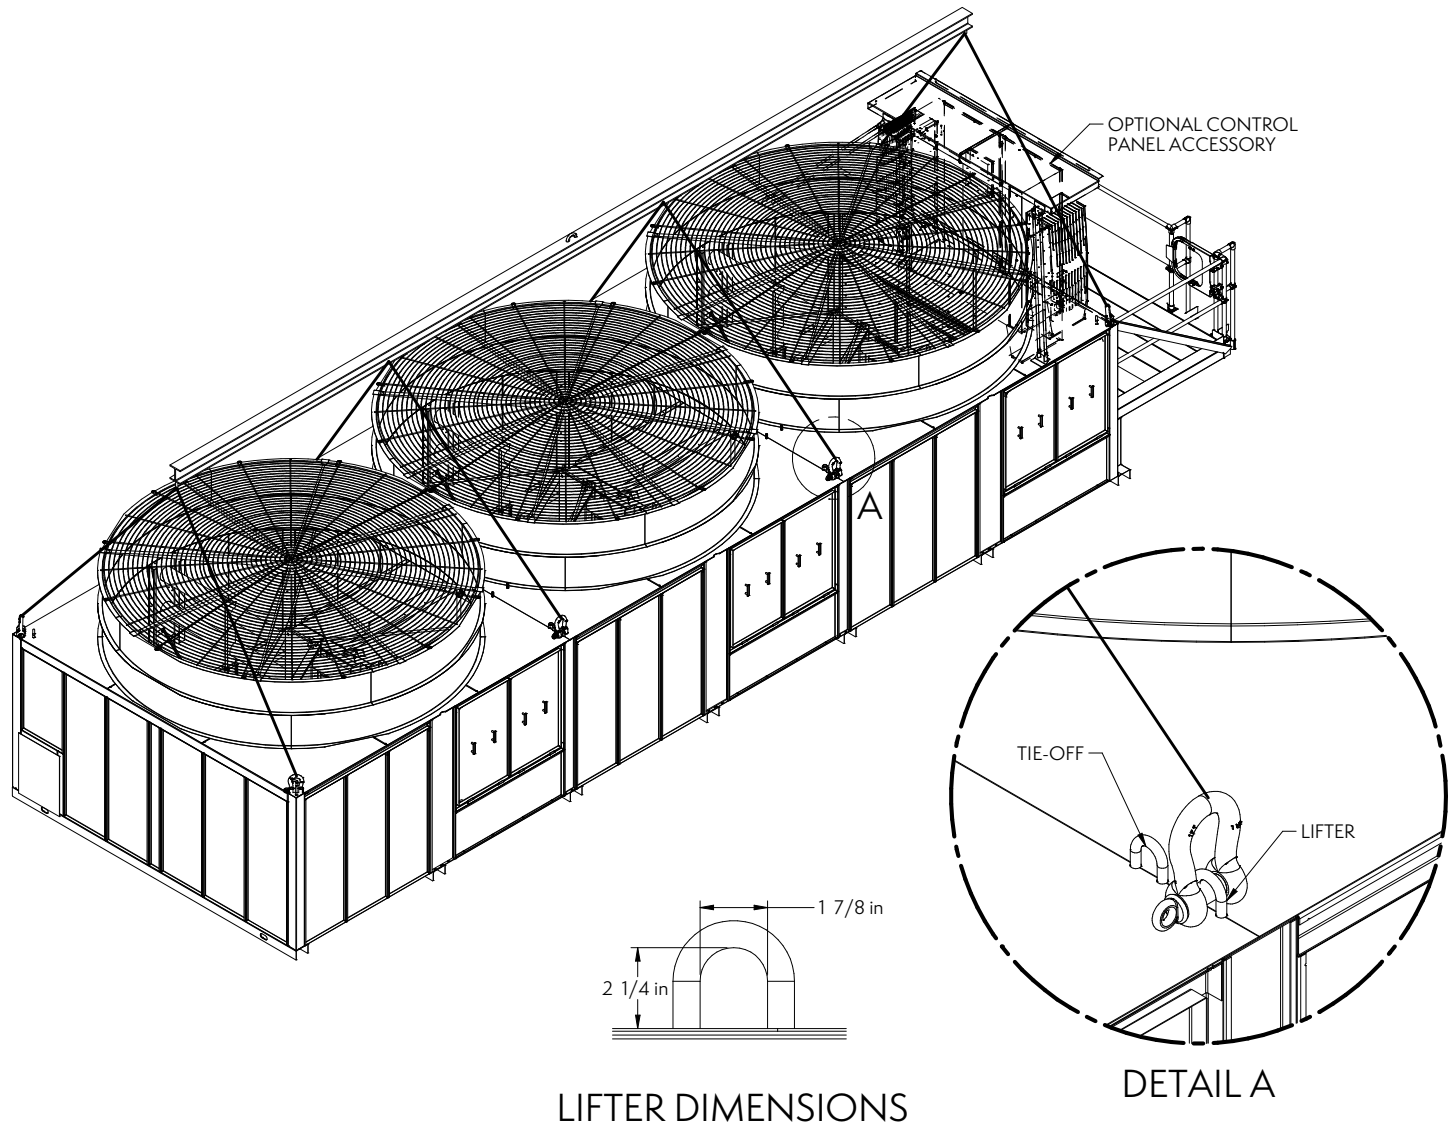

Figure 5 – Fan Section Rigging
1. Use lifting points on top of the fan section as shown in Figure 5. An adjustable/spreader lifting beam is required to be used along the entire unit length. Refer to the below instructions for lifting the APEX fan section.